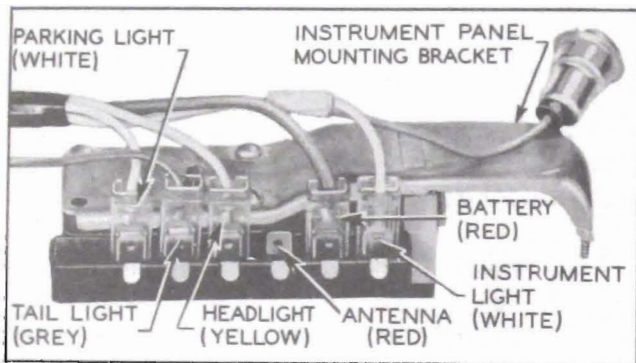

Figure 10-59—Lighting Switch
If the lighting switch is suspected of being faulty, the contacts can be tested by connecting a short jumper wire between the switch feed terminal and the other terminals while observing any change in the brilliance of lights affected. See figure 10-59.
3. Remove switch mounting nut with Wrench J 1589 and remove switch and escutcheon from instrument panel. See figure 10-59.